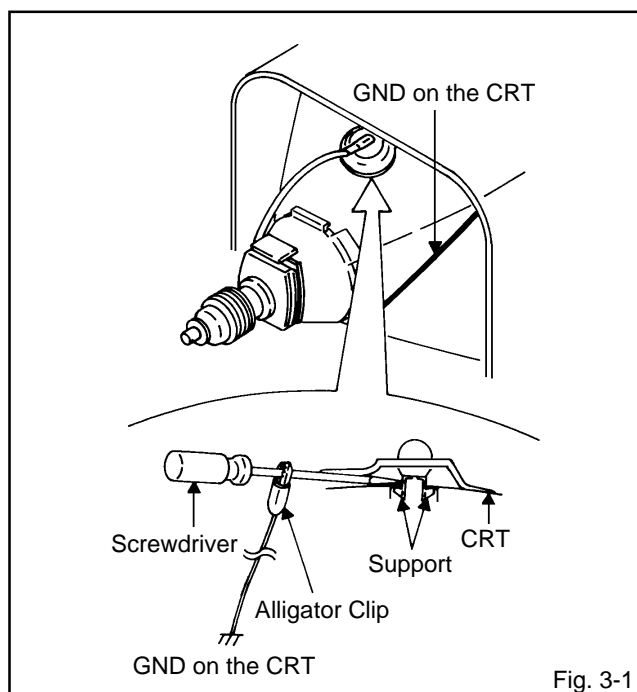

Fig. 3-1
1. Follow the steps as follows to discharge the Anode Cap. (Refer to Fig. 3-1.)